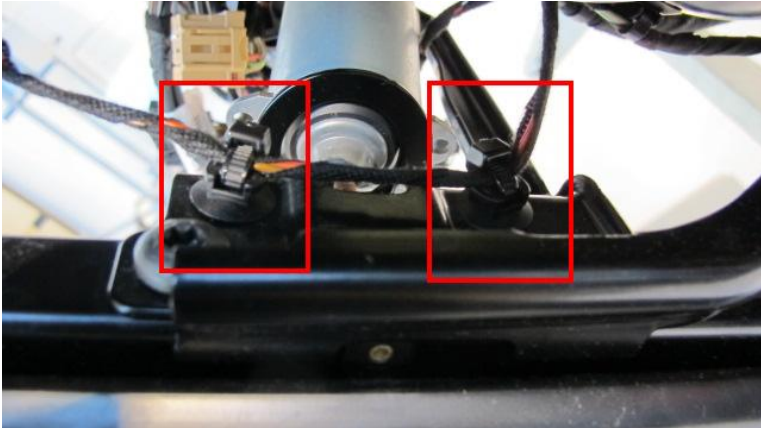

Figure 28
- Remove the two cable ties which secure the loom to the seat rail clips (Figure 28)
- Cable tie the loom back to its original position as Figure 28